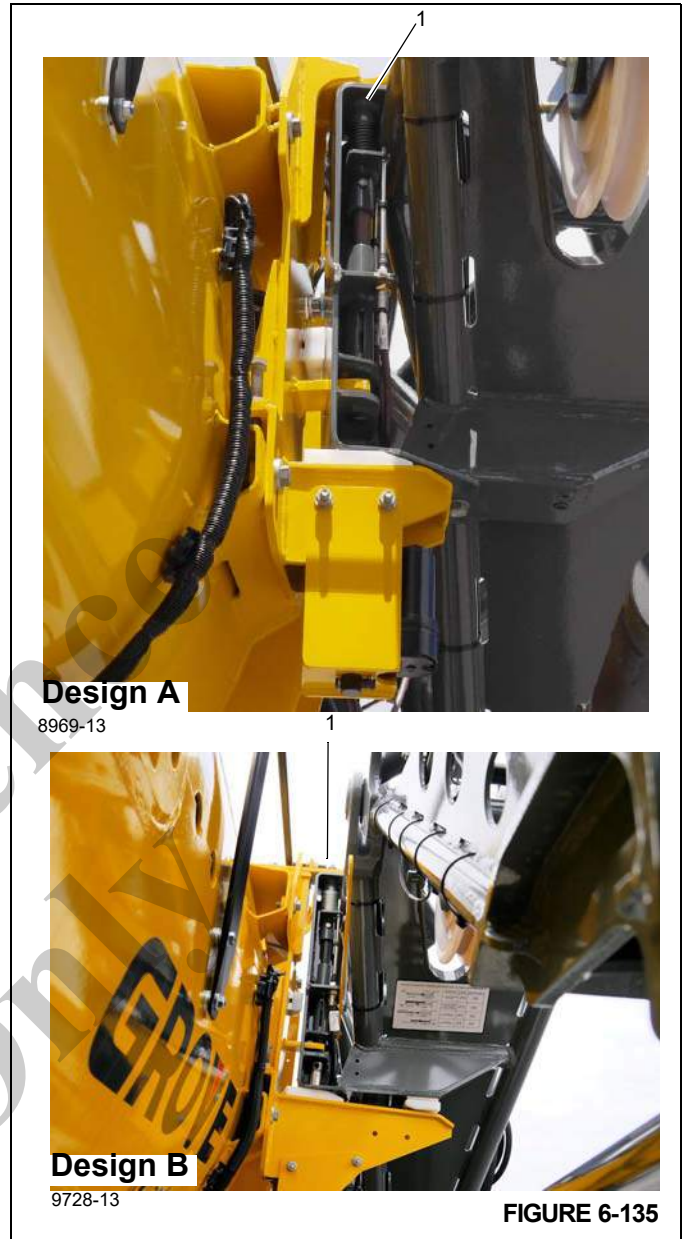

FIGURE 6-135
7. Verify pin #2 (1), (Figure 6-135) has engaged the extension.
If pin #2 (1), (Figure 6-135) does not engage the 35 ft (10.5 m) extension, **STOP**. DO NOT continue to stow the boom extensions until pin #2 has properly engaged the extension.